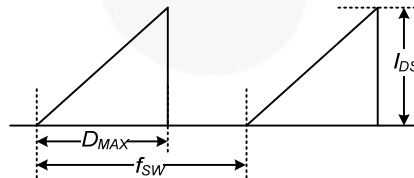

Figure 4. Repetitive Peak Switching Current
6. Repetitive peak switching current when the inductive load is assumed: Limited by maximum duty ( $D_{MAX}=0.73$ ) and junction temperature (see Figure 4).